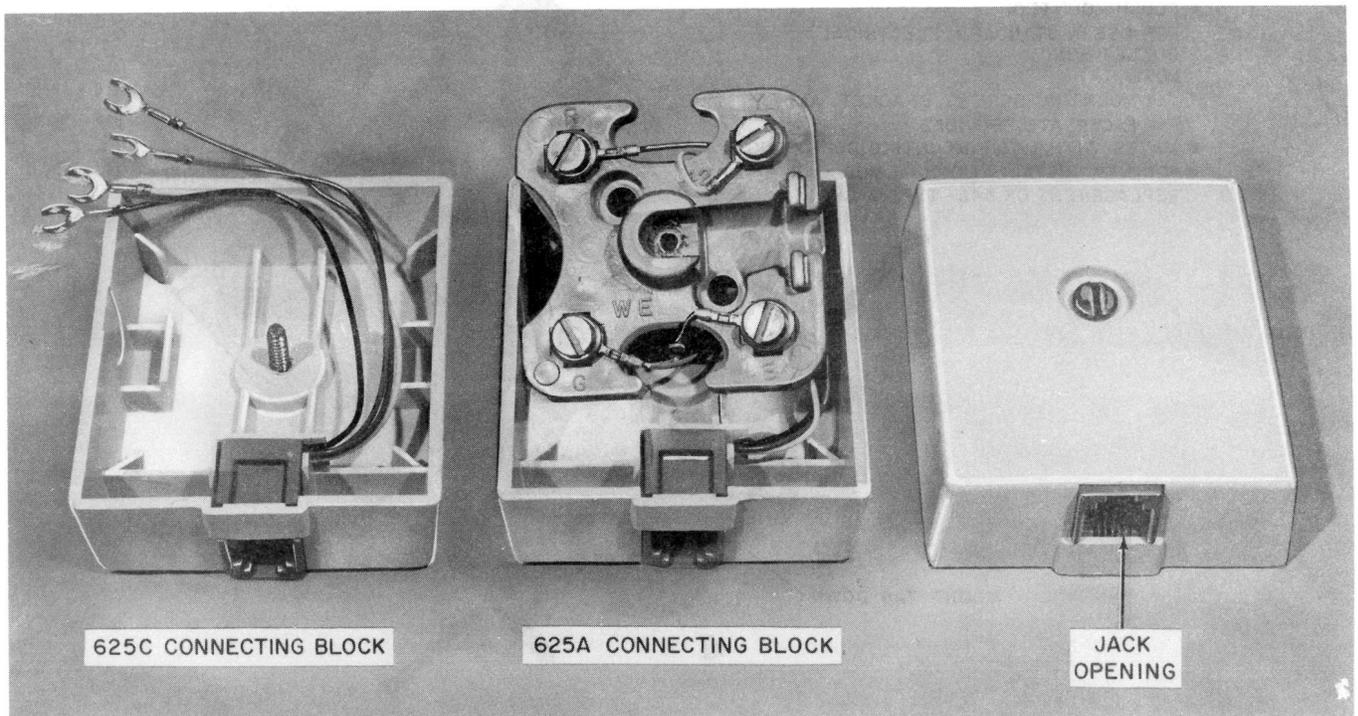

Fig. 1—625A- and 625C-Type Connecting Blocks
- Block, Connecting, 625A (Fig. 1)
- Block, Connecting, 625C (Fig. 1)
2.02 The **625A** connecting block (Fig. 1) is intended for new installations and is surface mounted. It contains a 42A connecting block base assembly which is used to terminate inside wire and spade-tipped leads from the jack in the cover. This connecting block replaces the 42A connecting block and the 549A jack. When mounting the 42A connecting block, leave at least 1/16-inch clearance between the bottom of the cover and the molding, carpet, or floor.
2.04 The **625C** connecting block (Fig. 1) is the same as the 625A connecting block except the 625C does not include the 42A connecting block. The 625C connecting block may be used to convert the 42A connecting block in existing installations to modular installation.
(a) **Surface-type:** Jack-opening to bottom (Fig. 1). Narrow baseboards will require mounting connecting block opening to left or right side and should be avoided whenever possible. Where permissible, mount the connecting block higher, affording easier jack-plug orientation and less troubles reducing exposure to corrosion due to humidity, dust, chemicals etc. Mount block 12 inches or higher above floor (about electrical outlet height). Blocks mounted higher can substantially reduce troubles.
3.02 **625A Connecting Block:** Mount the terminal block on a wall (preferred) or baseboard. Terminate the station wire and dress leads as shown in Fig. 1. Terminals on the connecting block are lettered R, G, Y, and B as
3.04 625C Connecting Block: Remove cover from existing 42A connecting block. Connect leads from miniplug connector in 625C connecting block to terminals on 42A connecting block. Dress leads as shown in Fig. 1; terminate leads of connecting block as shown in Table A. Attach the connecting block cover to the block using center